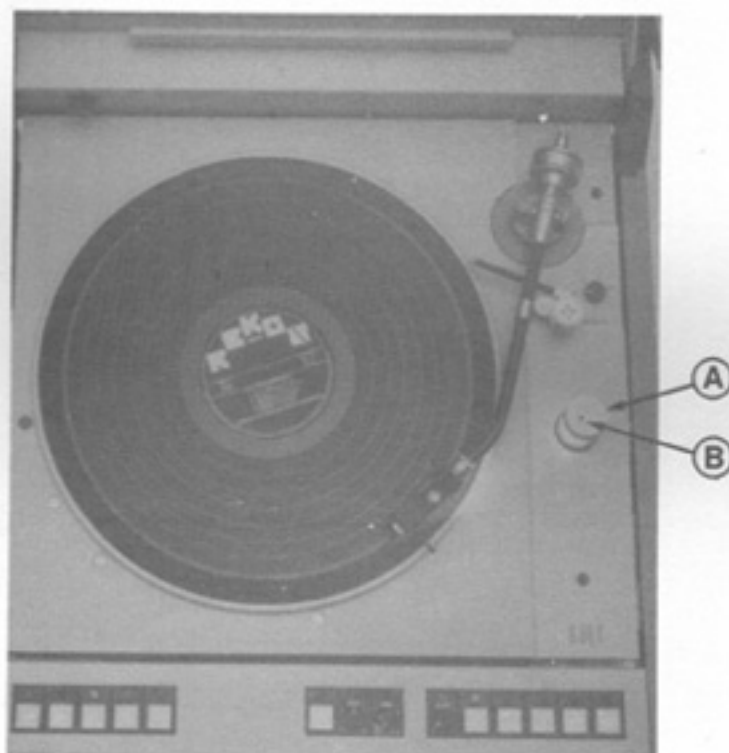

FIG. 13
Beam horizontal adjustment can be made by rotating ring nut (A); vertical adjustment by means of screw (B) (see fig. 13).